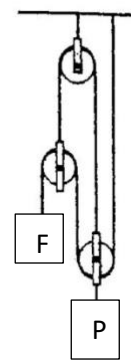

Fig. 2
- Mount the device as shown in the figure 2, and again apply a load (masses of the equipment) to the movable pulley.
- Repeat the measurements for the systems shown in figure 2 using the same method.
Fill in the table below for the layout in figure 2: